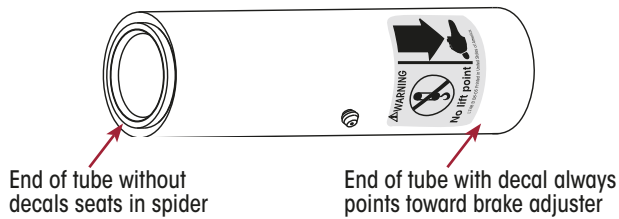

Figure 71: INTRAAX Cam Tube Orientation
2. Orient the end of the cam tube without the decal so that it goes onto the camshaft first (Figure 71). In other words, the end of the cam tube with the decal must be closest to the slack adjuster.